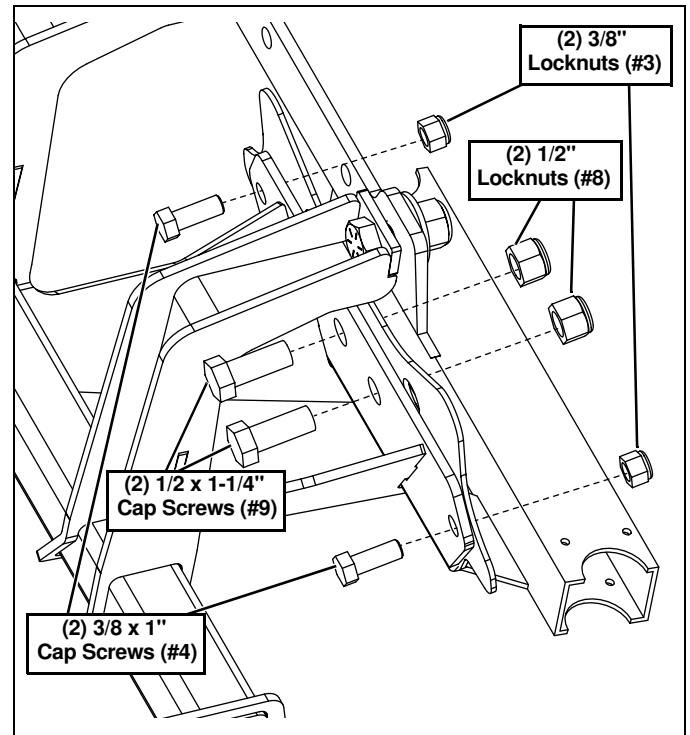

Figure 6
4. Insert (2) 1/2"-13 x 1-1/4" Caps Screws (#9) and (2) 3/8"-16 x 1" Cap Screws (#4) into the lower end of the Mounting Weldment (#2) and vehicle frame. Then, Secure with (2) 1/2"-13 Locknuts (#8) and (2) 3/8"-Locknuts (#3). (See Figure 6.)